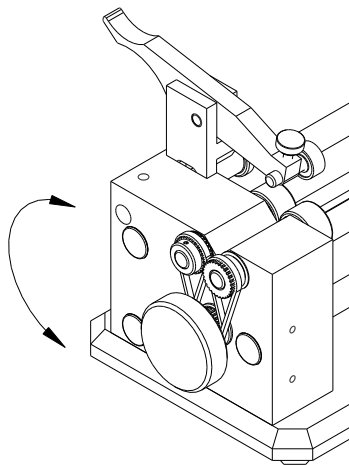

Figure 4. Manual Drive System
4.0 Gage Drive System – (See Figures 4 and 5)